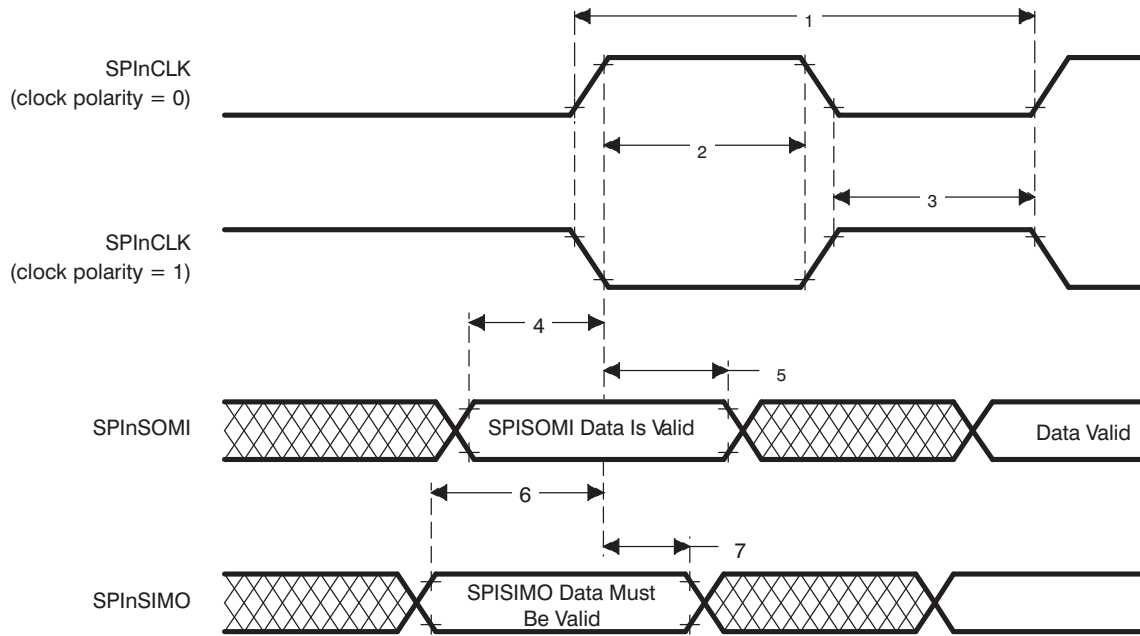

Figure 19. SPIn Slave Mode External Timing (CLOCK PHASE = 1)
(CLOCK PHASE = 1, SPInCLK = input, SPInSIMO = input, and SPInSOMI = output)^{(2) (3) (4) (5)} (see Figure 19)